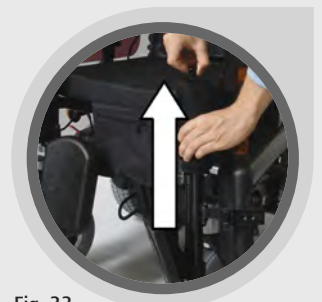

Fig. 33
- To pivot the legrest to the exterior, open the locking device. (Fig. 33)